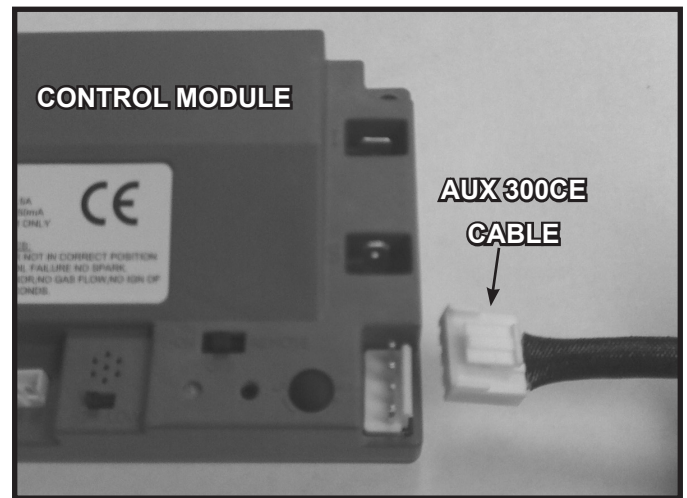

Figure 3.14 AUX 300 Module Installation
- Insert the 4 hole harness from the AUX300CE module into the 4 pin plug on the control module. See Figure 3.14.